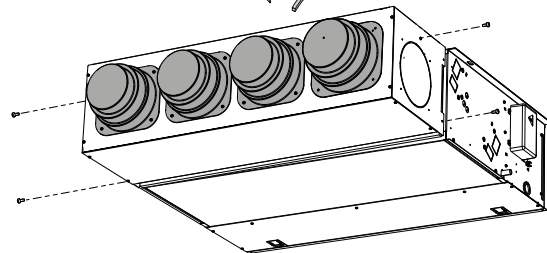

Fig.4
- Install the two fixing brackets in the appropriate side slots and fasten them using the two screws provided (fig.4).